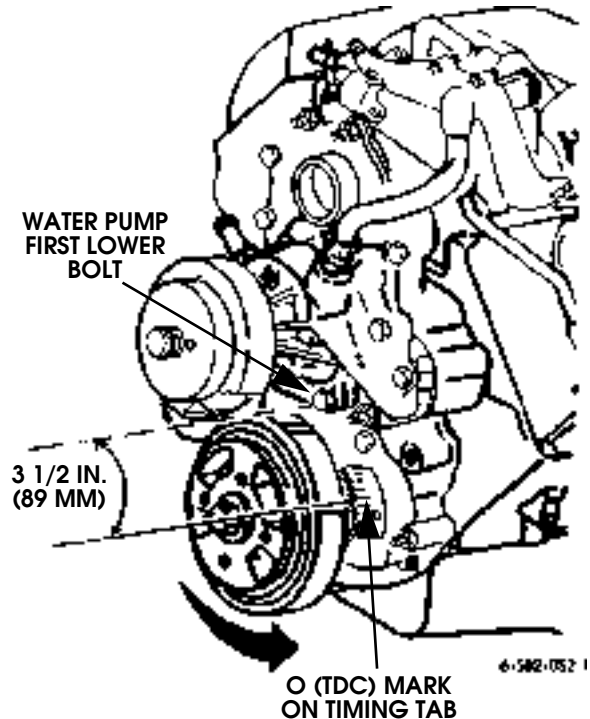

Figure 2-43: Crankshaft Indexing Position
- c. Rotate engine counterclockwise an additional 3 1/2 inches (89 mm), measured at mark on torsional damper. Damper mark should align with water pump first, lower attaching bolt at this point (Figure 2-43).
- c. Index crankshaft by rotating it counterclockwise an additional 3-1/2 inches (89 mm). At this point, mark on damper will be roughly aligned with first lower water pump bolt (Figure 2-43).
- b. Rotate crankshaft counterclockwise and align mark on torsional damper with “O” (TDC) mark on front cover timing tab (Figure 2-43).